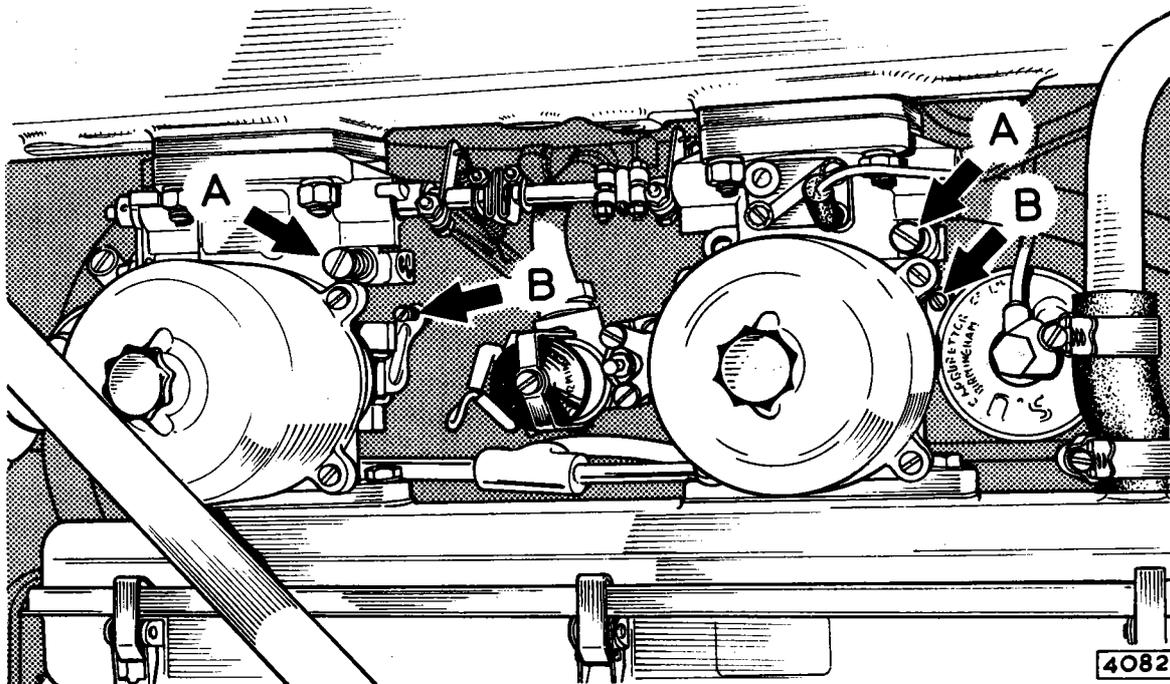

Fig. 6 Carburetter tuning—"A"—Slow running screw, "B"—Mixture adjusting screw
Only two adjustments are provided at the carburetters: (i) The slow running volume screw (A) (Fig. 6) governing idling speed, and (ii) the mixing adjusting screws (B) governing mixture strength. Correct setting of the mixture strength at idling speed ensures that the carburetters are correctly adjusted throughout their entire range.